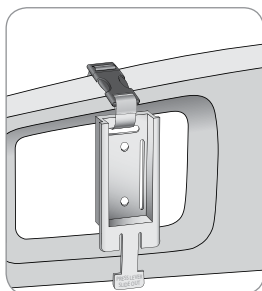

Fig. 41
2. Buckle strap onto bed (Fig. 41) and tighten strap securely.